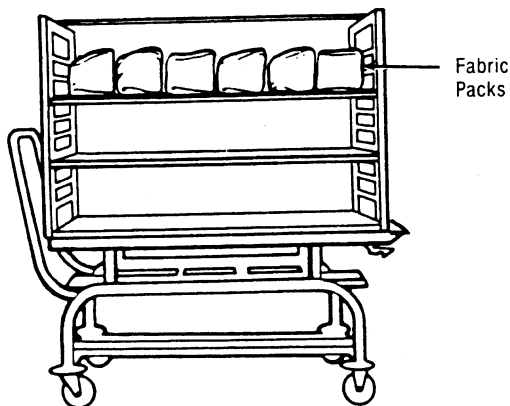

Figure 22. PLACE TEXTILE PACK ON EDGE TO PROMOTE STEAM PASSAGE.
- a. Place textile pack on edge so that the layers of textile within are perpendicular to the shelf to facilitate air removal, steam penetration, and drying (Figure 22).